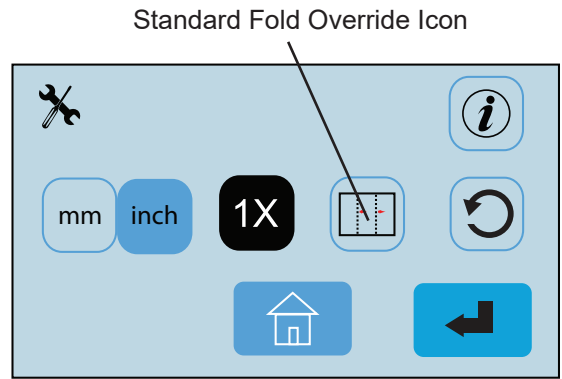

Fig. 30
1. It may be necessary to adjust the factory set standard fold settings for a particular fold type and paper size. This can be done in the Standard Fold Override Mode. From the Operator Settings menu select the Standard Fold Override icon  (Fig. 30) and press the enter  icon to select.